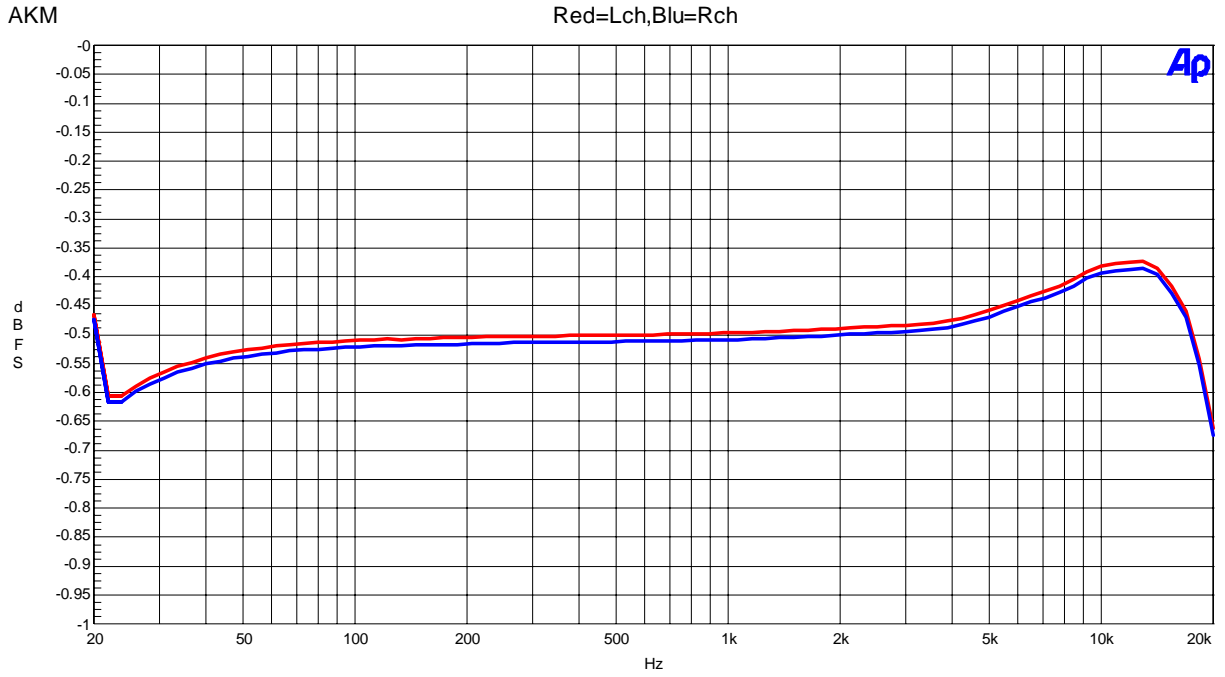

Figure 7. Frequency Response (Input Level=-0.5dBFS)
- Figure 7. FFT (Input Frequency =1kHz, Input Level =-0.5dBFS)